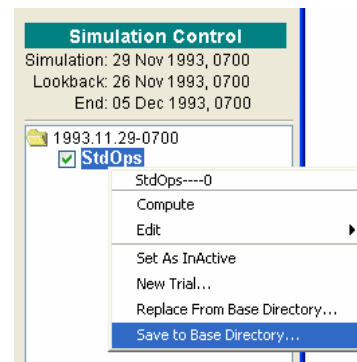
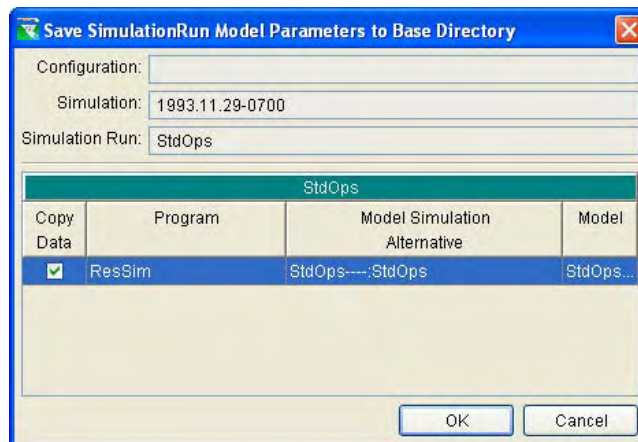

Figure 14.64 Alternative Shortcut Menu: Save to Base Directory
Figure 14.65 Save Simulation Run Model Parameters to Base Directory
1. In the Simulation Control Panel, right-click on the Alternative to access the shortcut menu, then choose **Save to Base Directory** (Figure 14.64). The **Save Simulation Run Model Parameters to Base Directory** dialog box will appear (Figure 14.65).